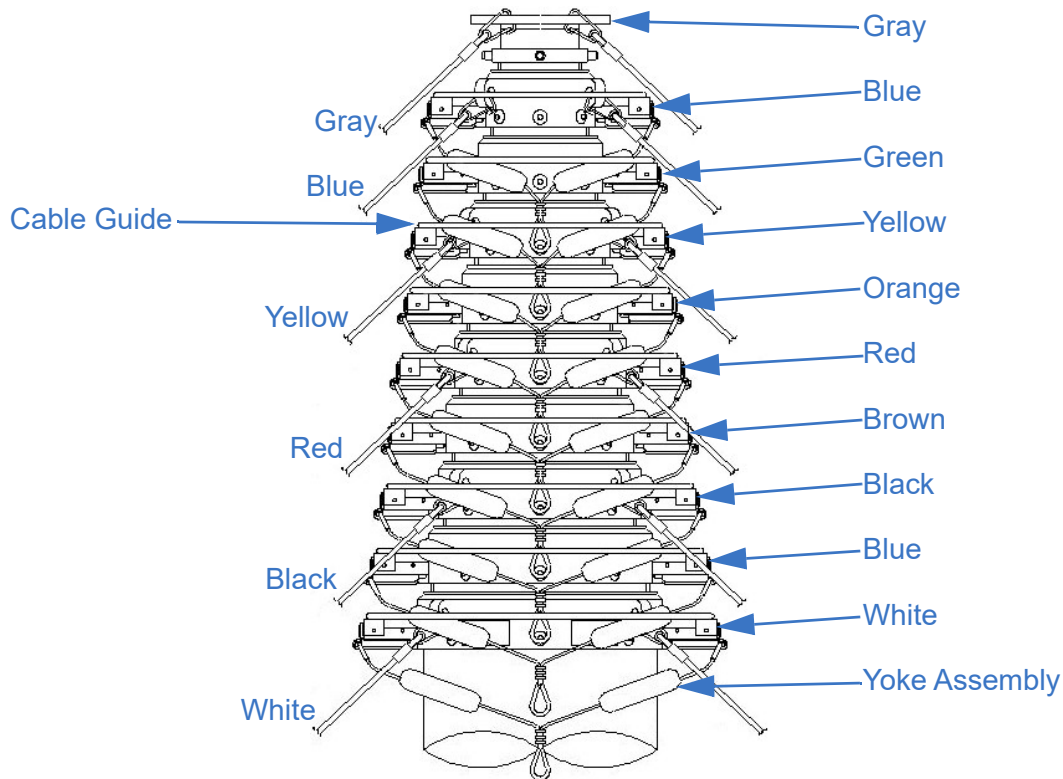

Figure 6-9 Sample of Guy Line Attachment on a Mast with Cable Guides (Mast with Trip Lines Shown)
- Attach the guy lines to the color-coded lugs on the collars. If cable guides are present, ensure the guy lines are outside the cable guides for the collars below where they attach (Figure 6-9).